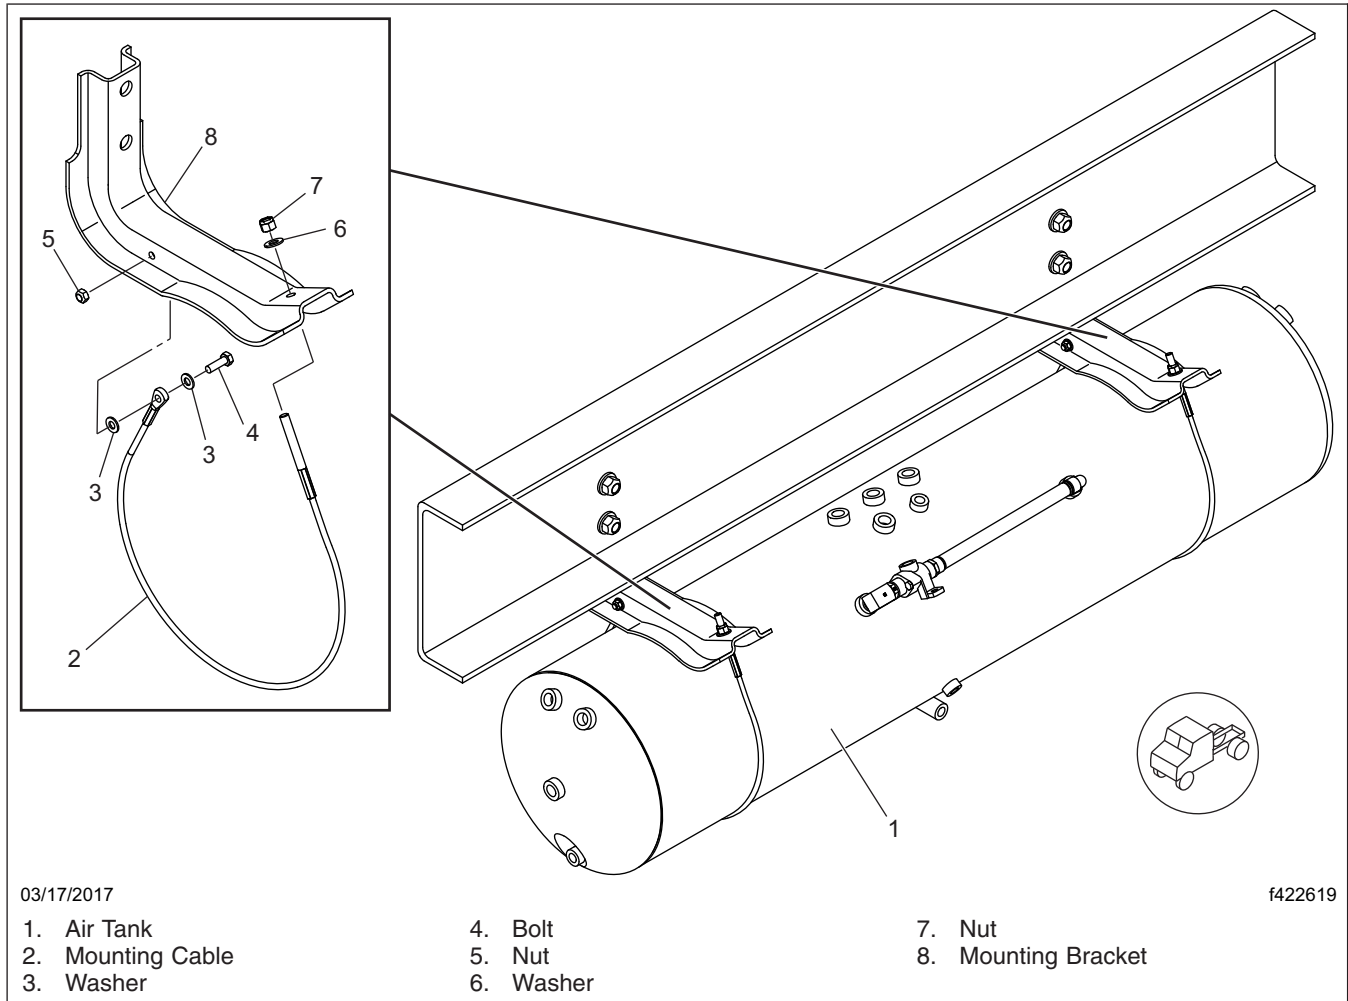

Fig. 1, Air Reservoir Installation
5. Remove the reservoir, as follows. See Fig. 1.